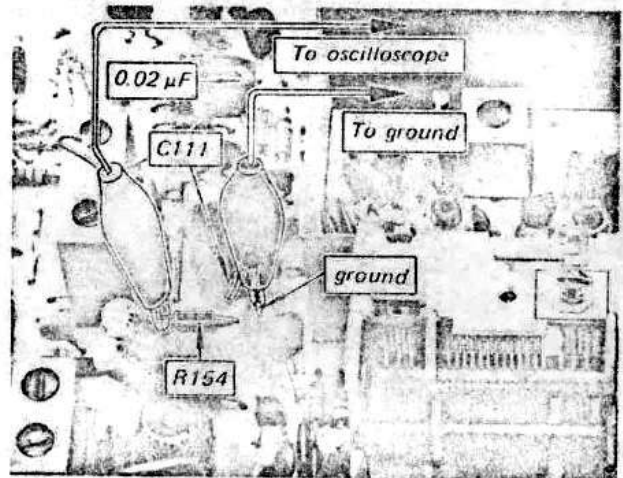

Fig. 3-3. Fm discriminator output connection
1. Connect the input cable of the oscilloscope with alligator clips to connection point of R154 and C116, and ground on the fm (a-m) front-end/i-f amp/MPX board and solder a $0.02\mu\text{F}$ capacitor across these clips as shown in Fig. 3-3.